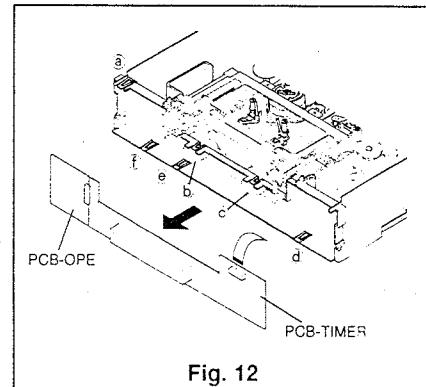

Fig. 12
- ③ Remove six catches (⑳ ~ ㉑) shown in Fig. 12 to remove the PCB-TIMER OPE.